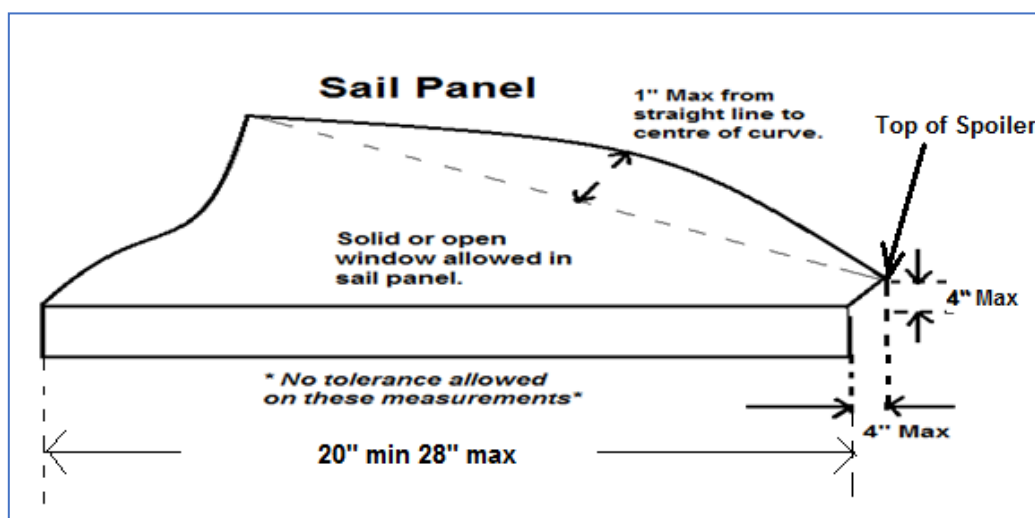

Figure 7
10.3 Sail panel may be no higher than 1" (one) inch and no lower than 3" (three) above or below an imaginary straight line from the rear edge of roof panel to 4" above the top edge of the back of the rear quarter panel (top of spoiler if used) (*Figure 7 & 8*).
13.1 A one piece, aluminium or Lexan spoiler with a maximum height of 4" inches above the back of the rear deck will be permitted. The top of the spoiler may extend past the end of the rear deck by 4" (*Figure 7 & 8*).